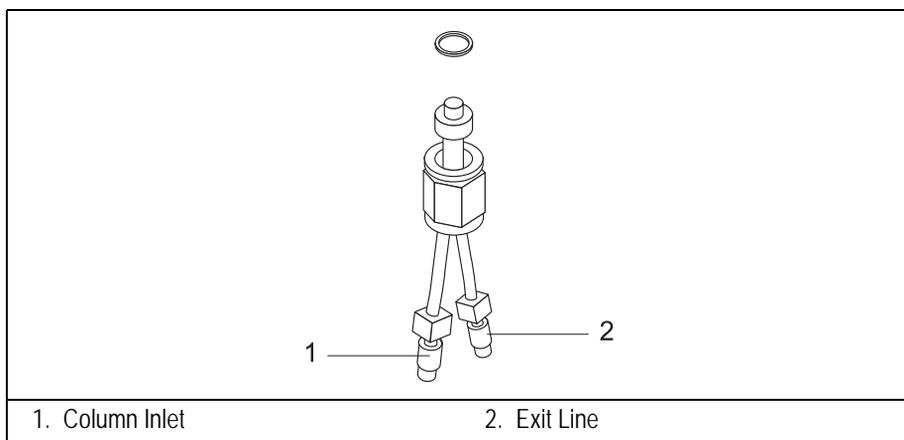

Figure 14-8. Two-Way Capillary Adapter
1. Attach the two-way capillary column adapter (shown in Figure 14-8) to the lower end of the detector base body and tighten it by using 10 mm wrench.